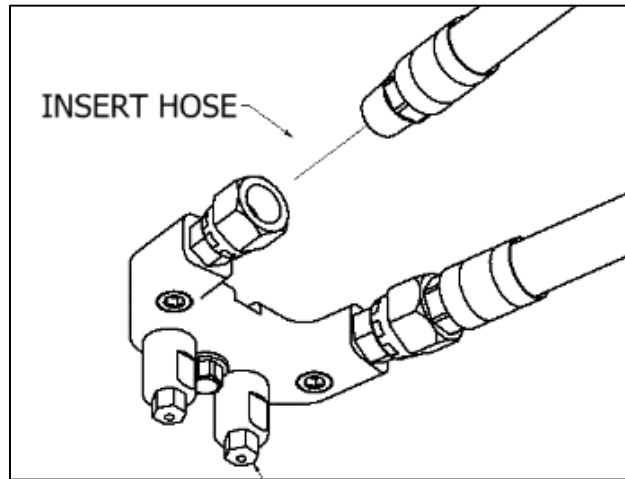

Figure 6: Coupling Block Hose Installation
3. Install hose to the **Coupling Block** (see Figure 6).